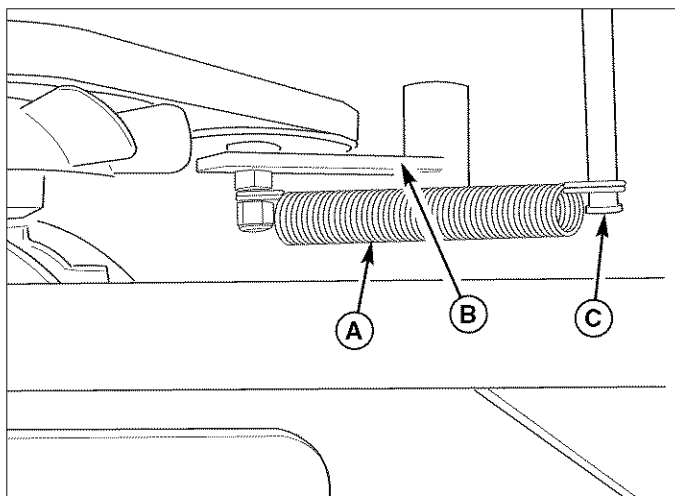

**Figure 15. Mower Deck Drive Belt**
3. Push the idler arm towards the left-hand side of the machine to release the spring tension on the drive belt. (See Figure 15)
4. Slide the drive belt over the edge of the idler pulley (A). Release the idler arm.
6. Install the drive belt on the spindle pulleys and the PTO clutch pulley. Again, push the idler arm towards the left-hand side of the machine and install the belt onto the idler pulley (A).